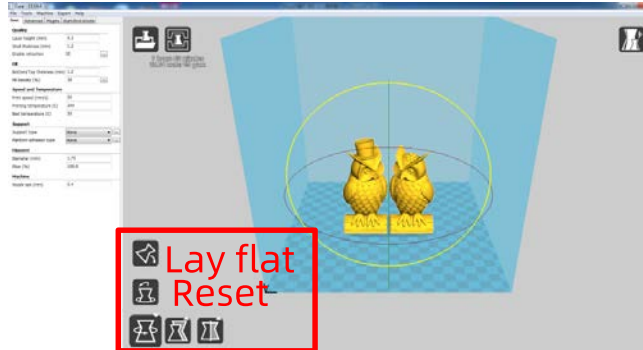

Figure 21
- (1) Zoom in/out: scroll the mouse wheel
- (2) Change viewing angle: right click the model, hold on and move the mouse
- (3) Position change: left click on the model, hold on and drag the model to move.
- (4) Rotate: single left click on the model and several icons will appear at the bottom left of the window (**Fig. 21**). Click the rotate button, 3 circles will surround the model. Rotate the model by moving the circle lines.
> Lay flat: it is very important to ensure the flat portion of the model is well attached to the platform. So, please use Lay Flat option everytime after rotating the model, as it will minimize the adhesion issues during printing. (Fig. 21)